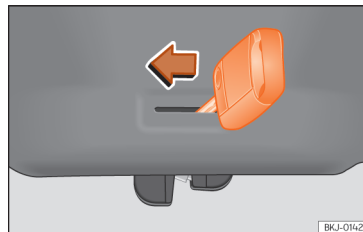

Fig. 91 Detail of the luggage compartment: emergency unlocking
- Insert the key blade into the slot and move the key in the direction of the arrow until the lock unlocks »» **Fig. 91**.